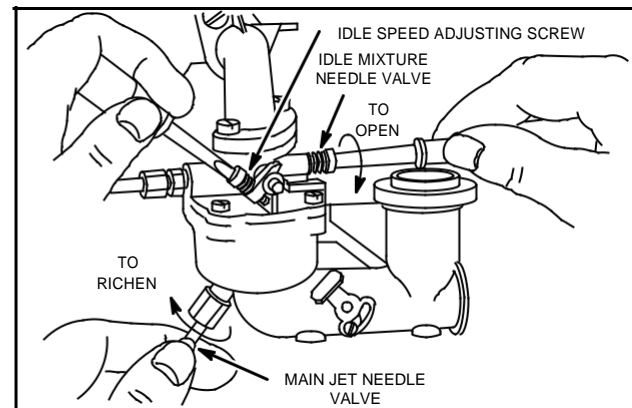

Fig. 281 - ADJUSTING CARBURETOR
7. Adjust idle speed adjusting screw to obtain 1750 RPM, aluminum engines; 1200 RPM, cast iron engines, Fig. 281.